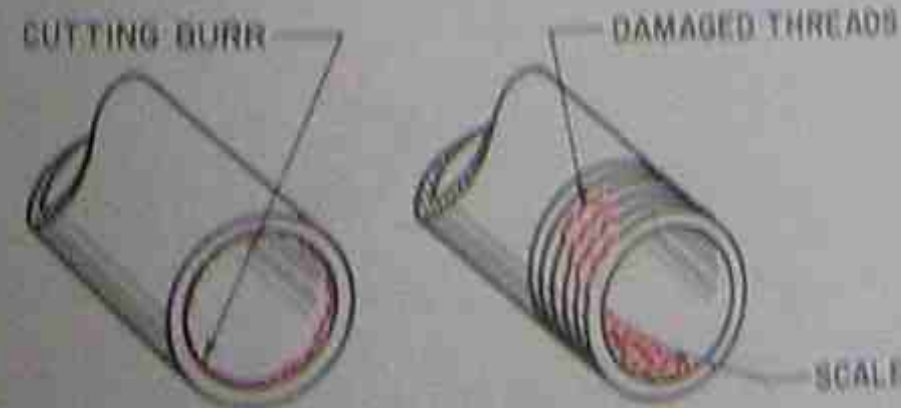

Figure 31-48. Insure that threads are not damaged. Deburr pipe. Clean all scale, dirt, and other loose material from pipe threads and inside of pipe.
**SAFETY PRECAUTION:** \*Insure that all piping is free of burrs and that threads are not damaged, Figure 31-48. All scale, dirt, or other loose material should be cleaned from pipe threads and from the inside of the pipe. Any loose particles can move through the pipe to the gas valve and keep it from closing properly. It may also stop up the small pilot-light orifices.\*